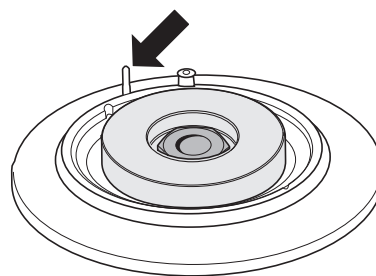

Fig. 12.8
2. Take care when lowering the maintop to locate the FSD sensor probes (**Fig. 12.8**) in their holes in the cook top and the burner bases.